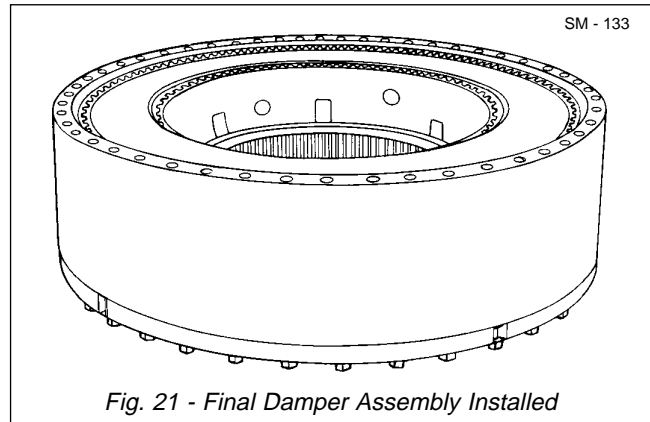
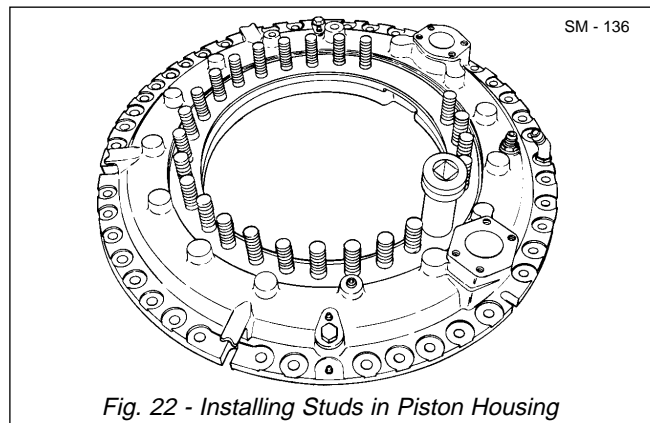

Fig. 21 - Final Damper Assembly Installed
Fig. 22 - Installing Studs in Piston Housing
19. Install friction disc (29) over disc driver (27), aligning teeth of friction disc with splines on disc driver.
20. Install splined plate (30) over friction disc (29) followed by another friction disc and a splined plate alternately until all are installed.
21. Install another damper assembly (28) over the last friction disc (29). See Fig. 21. Ensure cork side of damper assembly faces upward, toward service piston (31).
22. Install three new 'O' rings (40) in counterbore in three holes in mounting face of disc housing (25).
23. If removed, install studs (46) in piston housing assembly (41). See Fig. 22.
24. With a suitable lifting device, place piston housing assembly (41) on a clean flat surface, interior side up.
25. Install retaining pin (35) and return springs (36) in bores in piston housing assembly (41).